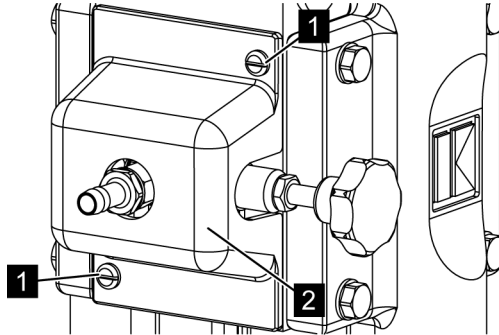

Fig. 13: Cover hood
4. ➤ Unscrew the screws (Fig. 13/1) and remove the cover hood (Fig. 13/2).